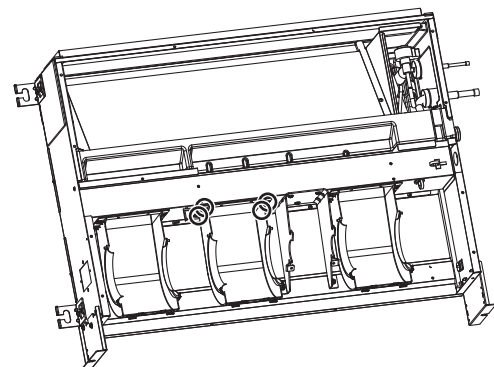

Fig.19
- (3) Remove the fan case fixing screws to take the top half of the fan casing off. (Fig.19)